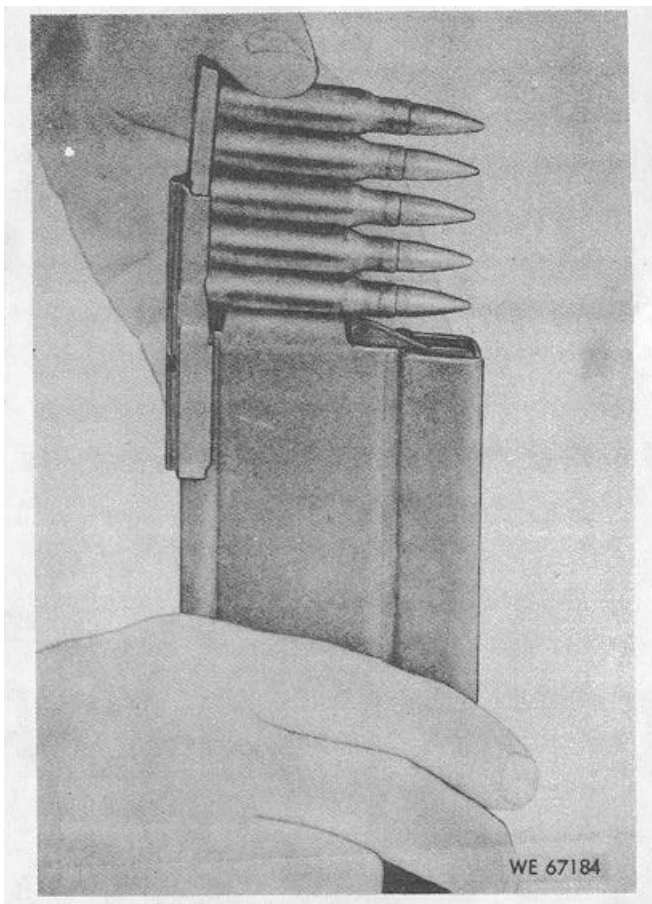
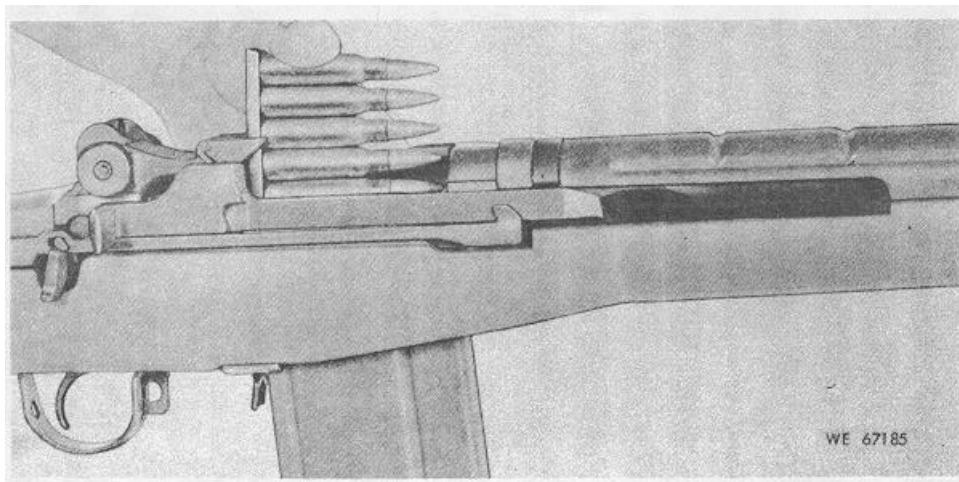

Figure 2-3. Loading magazine with filler and clip.
Figure 2-4. Loading magazine with clip.
b. When loading the magazine with a filler (fig. 2-3) slide the filler over the top rear portion of the magazine. Insert the loaded clip (fig. 2-4) and push the 5 rounds into the magazine. Remove the clip and repeat the process until 20 rounds have been loaded into the magazine. Remove clip and magazine filler.
pressure forces the 5-rounds into the magazine (fig. 2-4). Finally pull up to remove the cartridge clip.
(4) *Firing.* Firing occurs when the firing pin strikes the primer in the head of the cartridge. When the trigger is pressed (fig. 2-4) the trigger lugs are disengaged from the hammer hooks and the hammer is released. The hammer moves forward under pressure of the hammer spring and strikes the tang of the firing pin. This drives the firing pin against the sensitive primer, which in turn causes the propellant in the body of the cartridge case to ignite and propel the bullet into its trajectory.